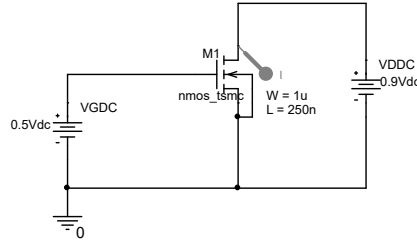

Figure 4: Simulation setup to plot the output and input characteristic.
- d Change the model name of the transistor to "nmos\_tsmc" (By double clicking on the model name "MbreakN" a pop up window appears. Replace "MbreakN" in the Value field by "nmos\_tsmc".) The modified circuit is shown in Fig.4.
- l Create a new *Bias Point* simulation simulation profile for the circuit shown in Fig. 4. Run the simulation.